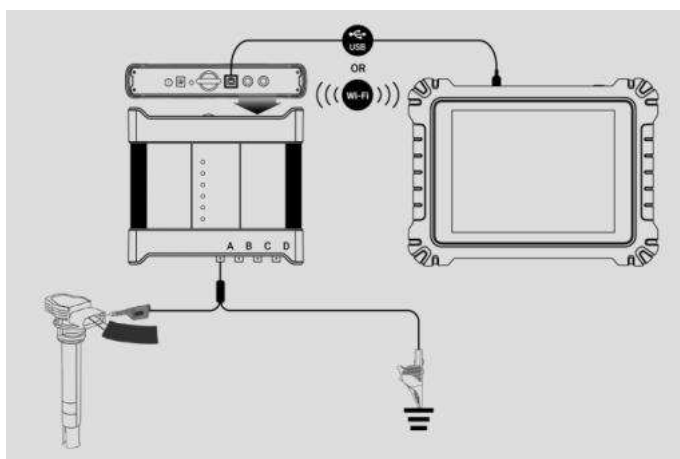

Figure 7-1 Sample Connection Diagram
1. Insert the applicable test lead or probe terminal ends into the input channel(s) to complete the connection (refer to **Figure 7-1**).